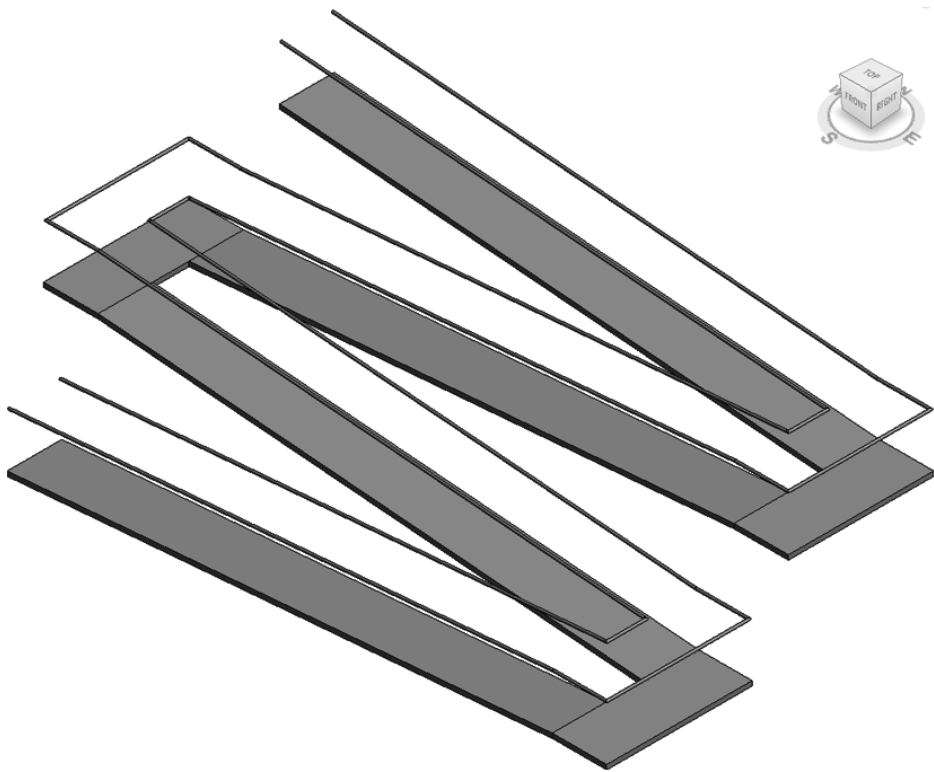

FIGURE 4.24 Ramp runs with associated railings
2. Apply the Design – Handrail railings using the Railing tool, and then finish the sketch. You see something like Figure 4.24, which displays the results in 3D.